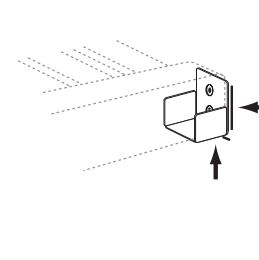

FIG. 4.5
- Mark a level line on the wall and Tower Side at the bottom and side of End Bracket (Fig. 4.5).